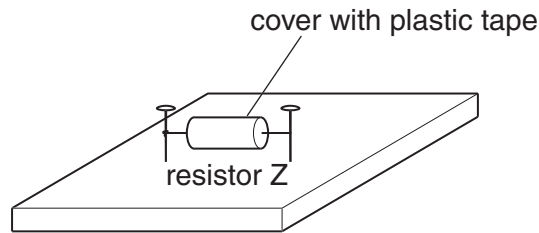

Fig. 1.2
- 2 Mount the 47Ω resistor onto the shorter section of wood, as shown in Fig. 1.2. Cover this resistor with opaque plastic tape so that candidates cannot determine its value. Label this “resistor Z”. Terminals must be provided so that candidates can make connections to the resistor.